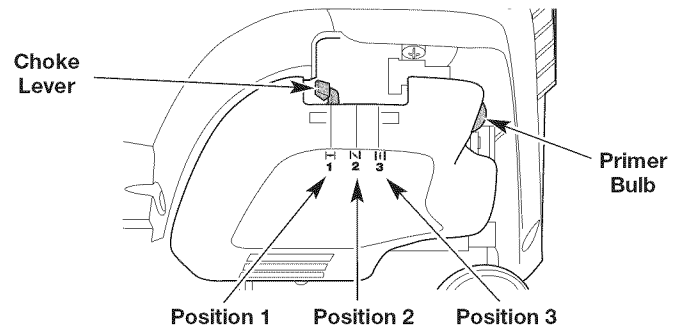

Fig. 9
3. Slowly press and release the primer bulb **10 times** (Fig. 9). If fuel cannot be seen in the primer bulb, press and release the primer bulb until fuel is visible.
4. Move the choke lever to **Position 1** (Fig. 9).
7. Continue to squeeze the throttle control. Move the choke lever to **Position 2** (Fig. 9).
10. Continue to squeeze the throttle control. Move the choke lever to **Position 3** (Fig. 9) and continue warming the engine for an additional 60 seconds. The unit may be used during this time.
IF... the engine hesitates, return the choke lever to **Position 2** (Fig. 9) and continue the warm-up.
8. Continue to squeeze the throttle control. Move the choke lever to **Position 2** (Fig. 9).
12. Continue to squeeze the throttle control. Move the choke lever to **Position 3** (Fig. 9) and continue warming the engine for an additional 60 seconds. The unit may be used during this time.